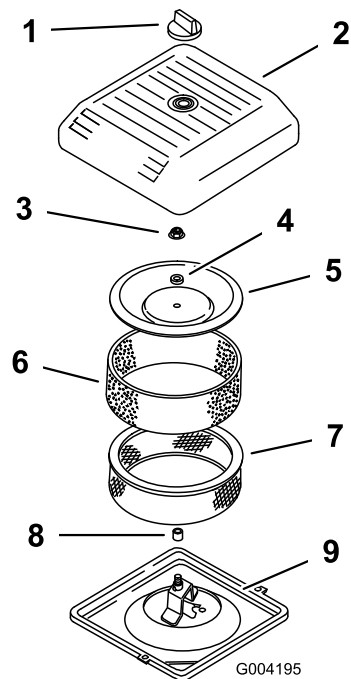

**Figure 144**
3. Unscrew the knob and remove the air-cleaner cover (Figure 144).
- Carefully slide the foam pre-filter off the paper element (Figure 144).
- Unscrew the cover nut and remove the cover, spacer, and paper filter (Figure 144).